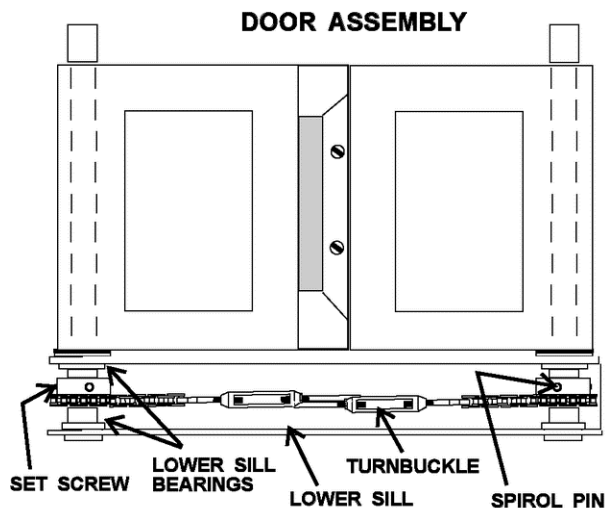

Fig. 53
3. Remove door chain by loosening one of the turnbuckles (Fig. 53).
4. Loosen the set screw on the sprocket of door being replaced (Fig. 53).
5. Drive out the spiral pin from the sprocket of door being replaced (Fig. 53).
7. Remove door(s) from lower sill bearings and sprocket Fig. 53.